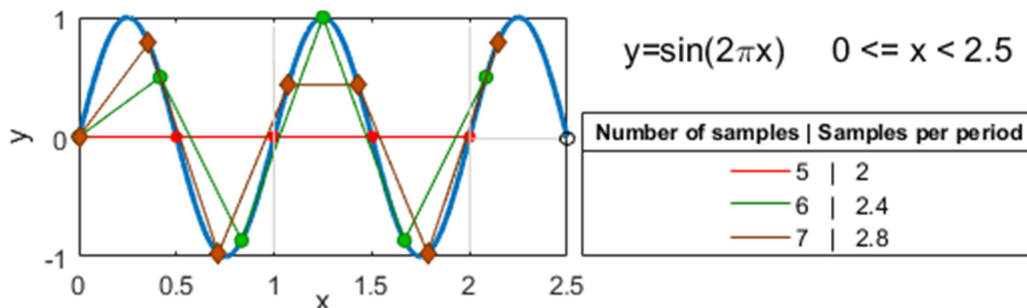

Fig. 6 Sine curve with 2.5 periods, sampled with different sample rates
With exactly 2 samples per period the amplitude or the phase cannot be determined. With a phase=0 and 2 samples per period, only the DC-level and frequency is known. The amplitude may seem to be zero, see Fig. 6, red dots.
Fig. 6 shows the first two sample rates acc. Equation (2) and in addition the not allowed 2 samples per period. The first sample of the next period would be for all sample rates at $y, x=0, 2.5$, see black circle in Fig. 6.